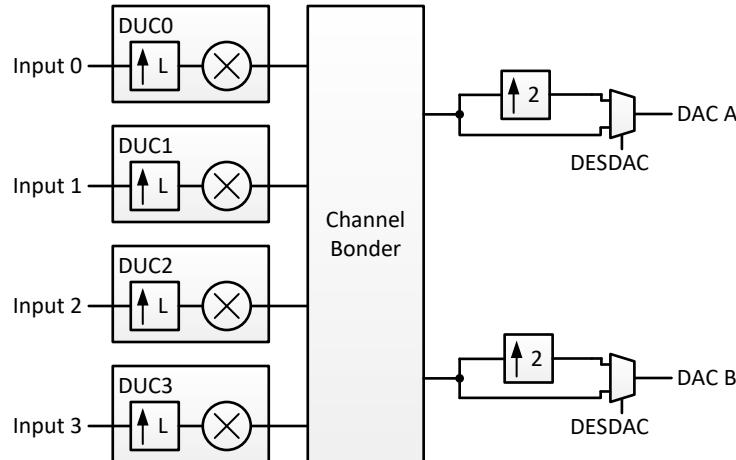

图 7-13. DUC Block with real output
The digital signal processing blocks are shown in 図 7-13. The device includes four digital up-converter (DUC) blocks supporting four complex (IQ) input streams that can be combined at different RF frequencies. The four DUCs can be flexibly assigned and summed together for either DAC output in the channel bond. The final signal processing block is an extra interpolate by 2 filter for use with DES2XL/H mode.